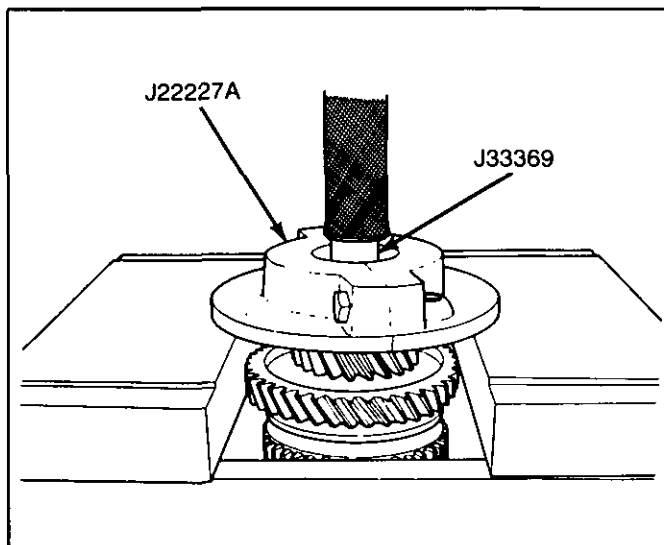

Figure 28 Front Output Bearing
1. Remove the front bearing using J-22227-A with J-33369 and a press (Figure 28).